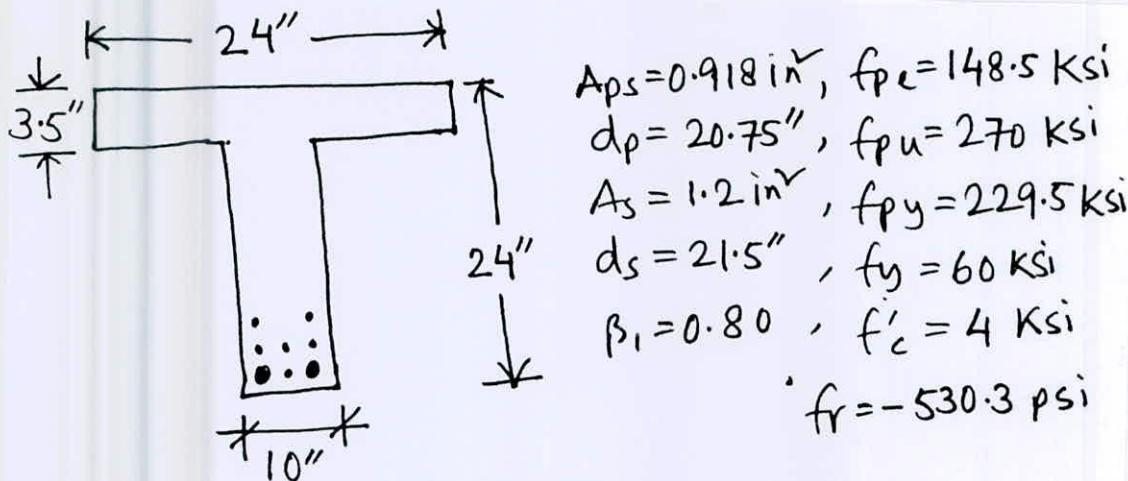

Figure 3
3. Using AASHTO code, determine the nominal moment capacity of a partially prestressed concrete T section with dimension shown in Figure 3. Assume bonded tendons are used. (20)